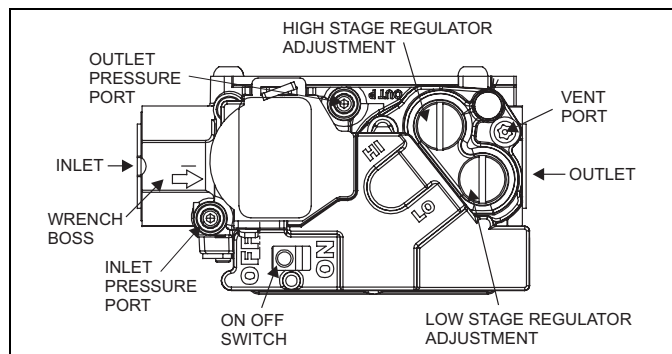

FIGURE 4: Gas Valve
- Move gas control switch to the "OFF" position. Do not force. See Figure 4.
- Wait five (5) minutes to clear out any gas. If you then smell gas, STOP! Follow "B" in the safety information above. If you don't smell gas, go to next step.
- Move gas control switch to the "ON" position. Do not force. See Figure 4.
- After three (3) trials for ignition, if the appliance will not operate follow the instructions, "TO TURN OFF THE APPLIANCE" and call your service technician or gas supplier.
- Move gas control switch to the "OFF" position. See Figure 4.